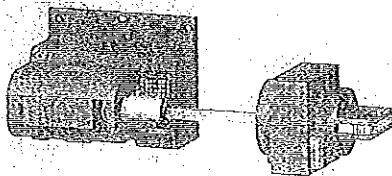

Fig. 3 - DIMENSIONS, see page D28, D34
c) through the side wall of the switchboard (fig. 3)